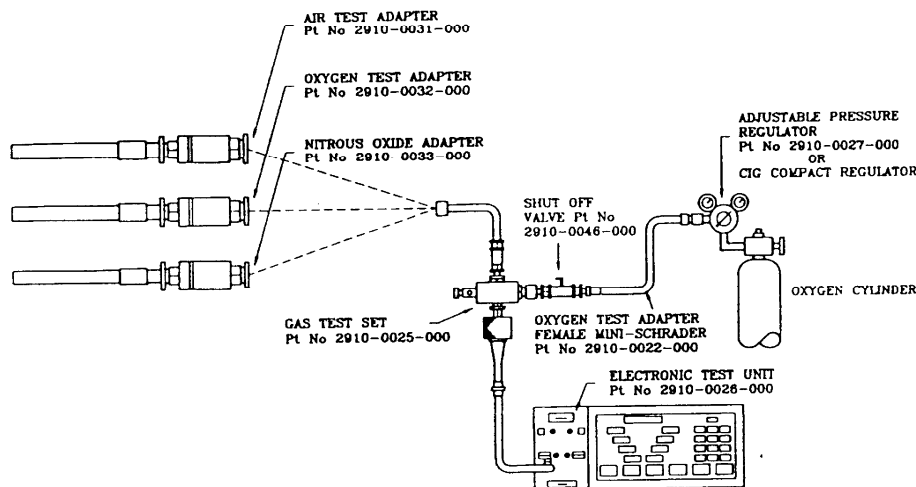
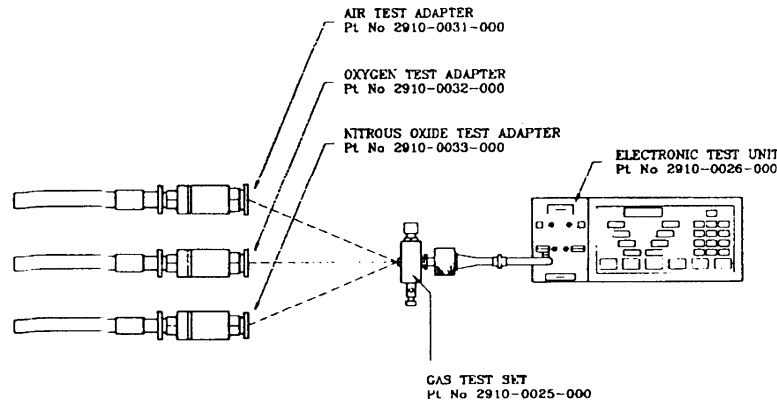

Fig 6.1 Testing Gas Supply Systems
Fig 6.2 Testing Gas Supply System
1. Connect the test configuration, illustrated on Fig. 6.1 to the gas supply system.
2. Test each gas supply system individually using the relevant test lead and adapter, illustrated on Fig 6.1.
4. If a pressure decrease of more than 10kpa is indicated, leak test the pipeline and cylinder non-return valves as described in Fig 6.2.
1. Disconnect the pressure control tap adapter and adjustable pressure regulator from the gas test set illustrated on Fig. 6.1 to obtain the test configuration illustrated on Fig. 6.2.